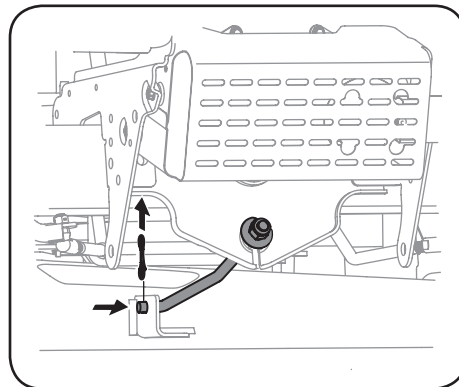

Figure 4-10
8. Remove the bow-tie pin securing the deck stabilizer rod to the deck. Slide the deck lift rod from the mounting weldment on the deck as seen in Figure 4-10.